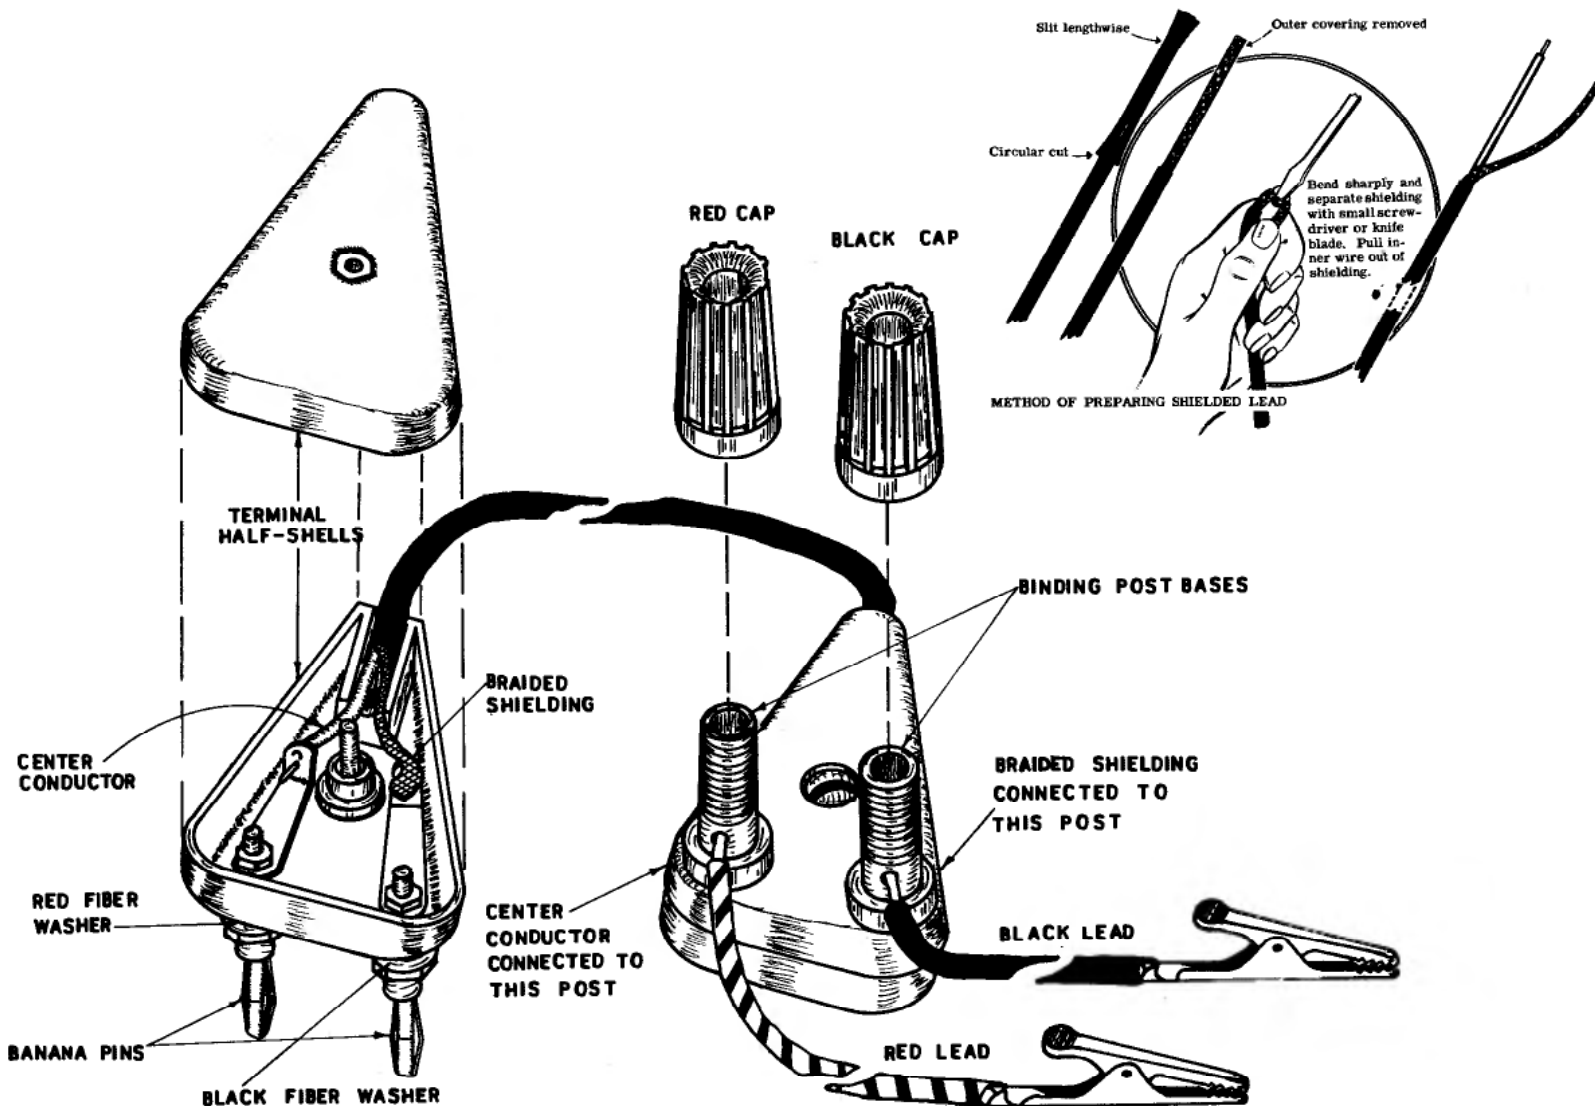

Figure 10
See Figure 10 for the following:
- () Install two banana pins through the mounting holes of a terminal half-shell with a fiber washer (red or black) on the outside and with a #6 solder lug and 6-32 nuts on the inside. Install the red fiber washer and the black fiber washer on the same sides as shown in Figure 10.